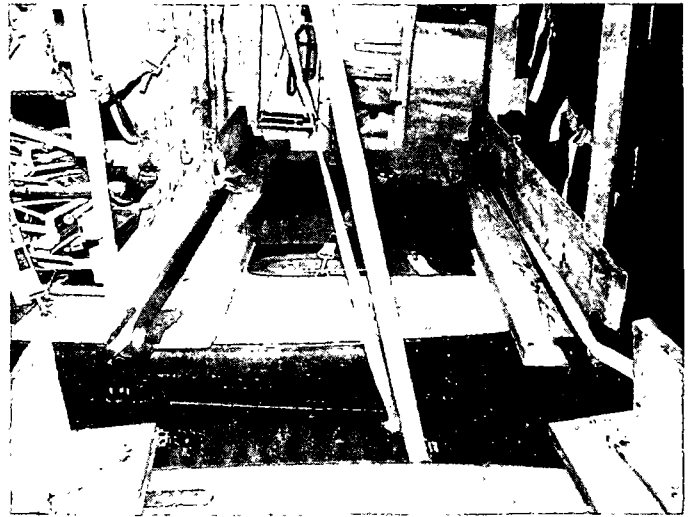

Figure 2-49. Tiedown beams used in restraining UH-1 helicopters.
e. Twenty-eight pieces of 2- by 12- by 100-inch lumber for construction of 14 tiedown beams as shown in figure 2-49.
(1) Position two tiedown beams across the floor of each helicopter cargo compartment as shown in figure 2-49.
(3) Place one sheet of 12-by 30-inch felt under each tiedown strap where it is wrapped around a rotor blade, as shown in figure 2-52. Place one sheet of 12-by 18-inch felt under each tiedown strap where the strap passes over the end of a tiedown beam, as shown in figure 2-49.